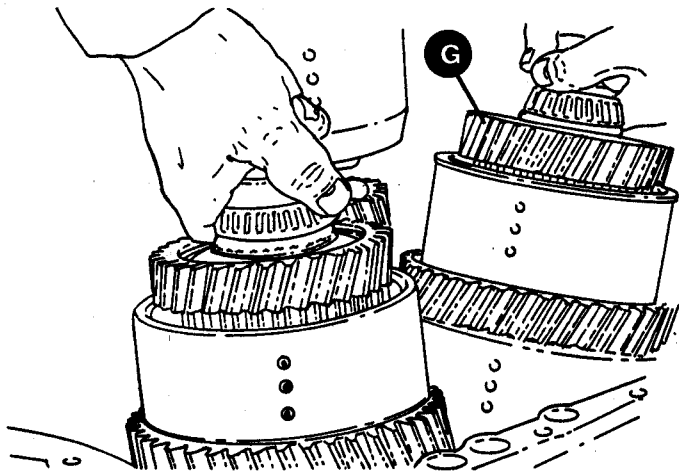

Figure 20.
13. This step requires the help of an assistant. Have the assistant SLIGHTLY raise and tilt the input clutch and mainshaft, while the assistant is holding the two units, fit the reverse clutch (G, Figure 20).